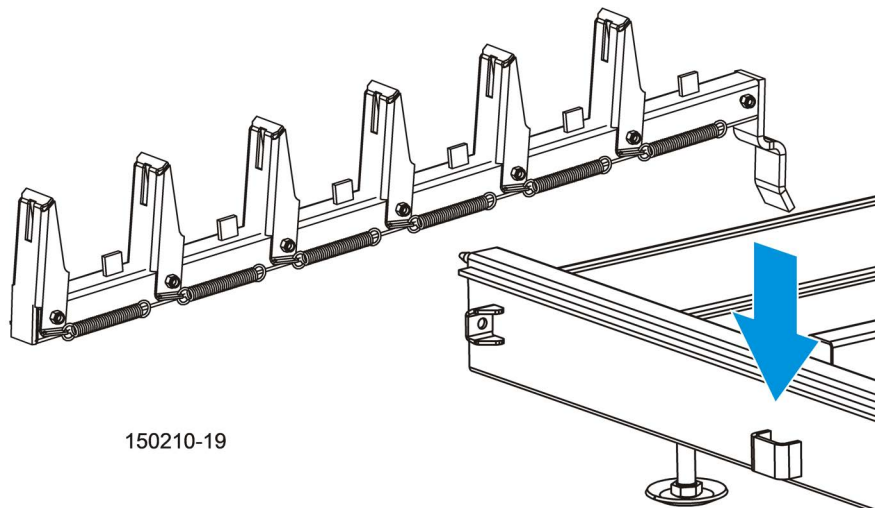

FIG. 6-1
4. Place the **optional** loading ramps\* (part number 015804) in the frame brackets that will evenly support the length of the log- See FIG. 6-1..